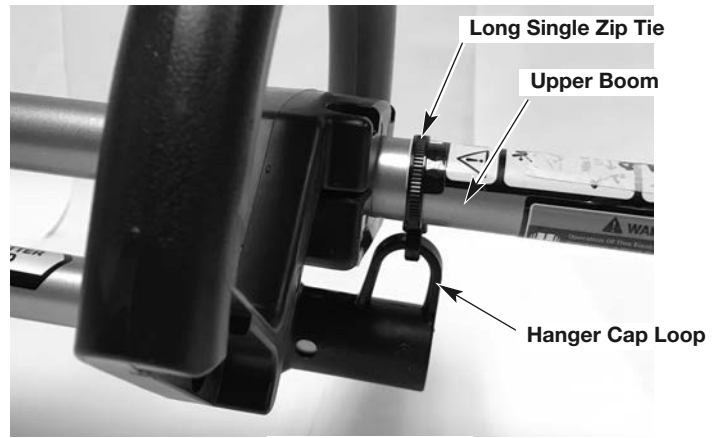

Fig. 3
1. Using a long single zip tie, insert the zip tie through the hanger cap loop and then wrap it around the upper boom (just behind the handle) (Fig. 3).